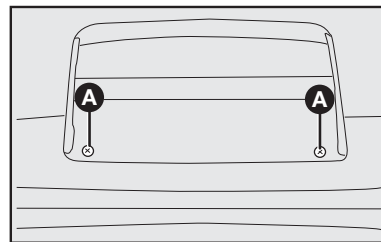

fig. 24
1) com a tampa traseira aberta, retirar os parafusos **A-fig. 24** e remover o brake light.